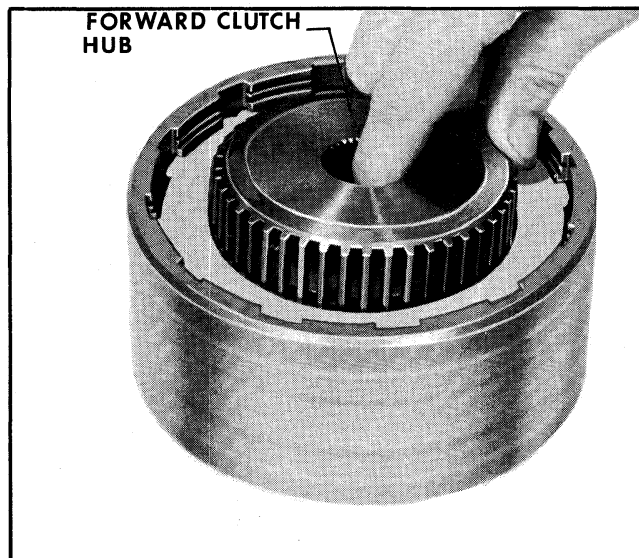

Fig. 7B-73 Removing Clutch Hub
7. Using spring compressor J-9542, compress piston return springs (Fig. 7B-75). Remove snap ring.